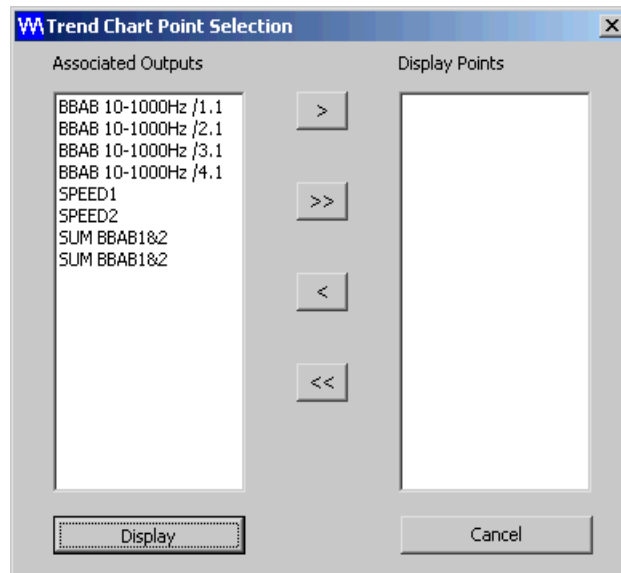

Figure 8-2: Trend Chart Point Selection window
- 2- Select the **Historic Trend Chart** command from the **Machine** drop-down menu. The Trend Chart Point Selection window appears (Figure 8-2). All output points for which data exists are listed in the **Associated Outputs** column.